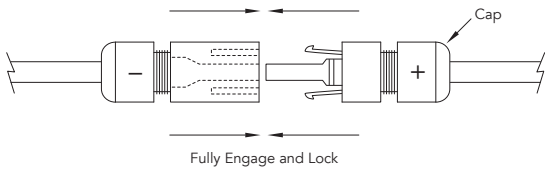

Figure 6: Connector of the plugs
Yingli Solar GG modules are provided with two (2) stranded, sunlight resistant output cables that are terminated with PV connectors ready for most installations. The positive (+) terminal has a female connector while the negative (-) terminal has a male connector. The module wiring is intended for series connections [i.e. female (+) to male (-) interconnections, see Figure 6], but can also be used to connect suitable third-party electrical devices that may have alternative wiring configurations so long as the manufacturer’s instructions are followed.